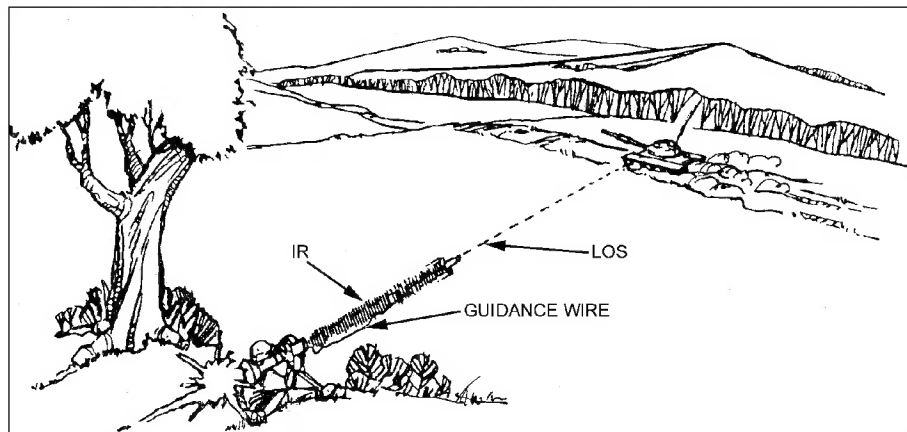

Figure 1-1. Daysight line of sight.
(1) The daysight generates signals that travel by wire to the missile control system. The missile control system fires the appropriate rocket thrusters to keep the missile heading along the gunner's LOS (Figure 1-1).